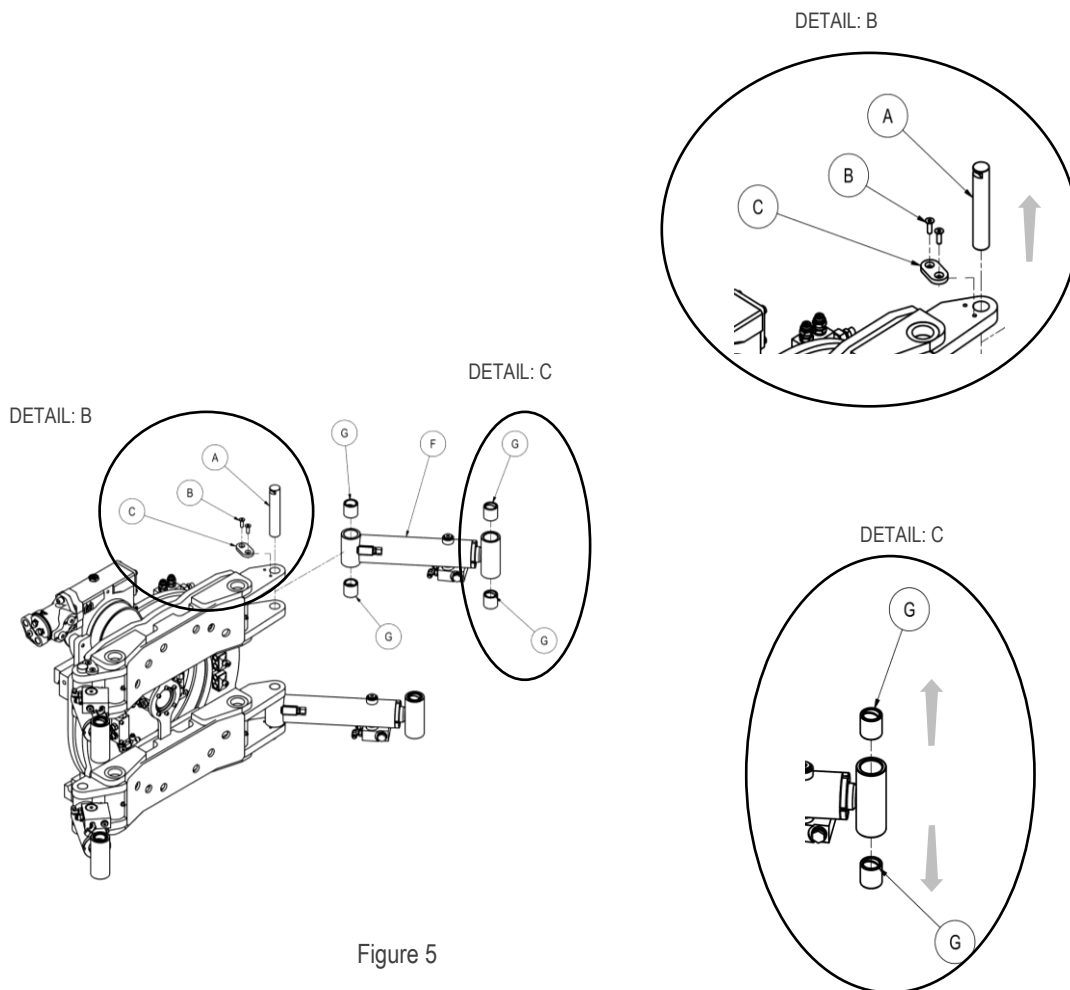

Figure 5
Using a suitable spanner, unscrew bolts "B" and remove pin "A" as shown in detail B Figure 5.
8. After disassembling the cylinder, remove the sleeve bushes "G", see Figure 5 detail "C", Carry out the operation on all cylinders present.